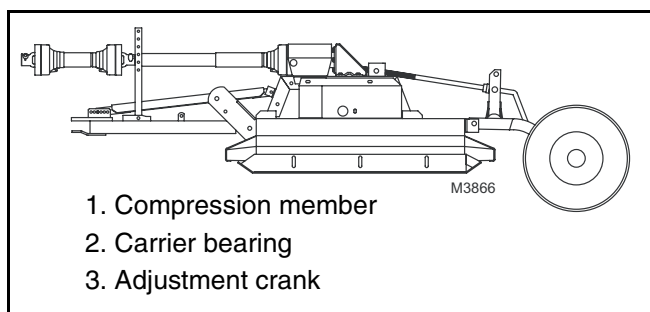

Figure 6. Cutting Height Adjustment - D80 (Pull-Type Model)
Adjust drive shaft carrier bearing (2), Figure 6, vertically in H-frame until driveline is as straight as possible between tractor PTO and cutter gearbox.
Cutting height is raised and lowered with height adjustment crank (3) or optional hydraulic cylinder. Front to rear attitude is set with the compression link (1). See Figure 6.